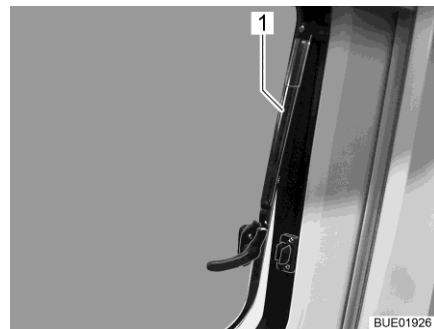

Fig. 22 Hinged window with automatic hinges, open
- Open hinged window half up to the required position. Allow the hinged window to engage automatically with the automatic hinge (Fig. 22,1).